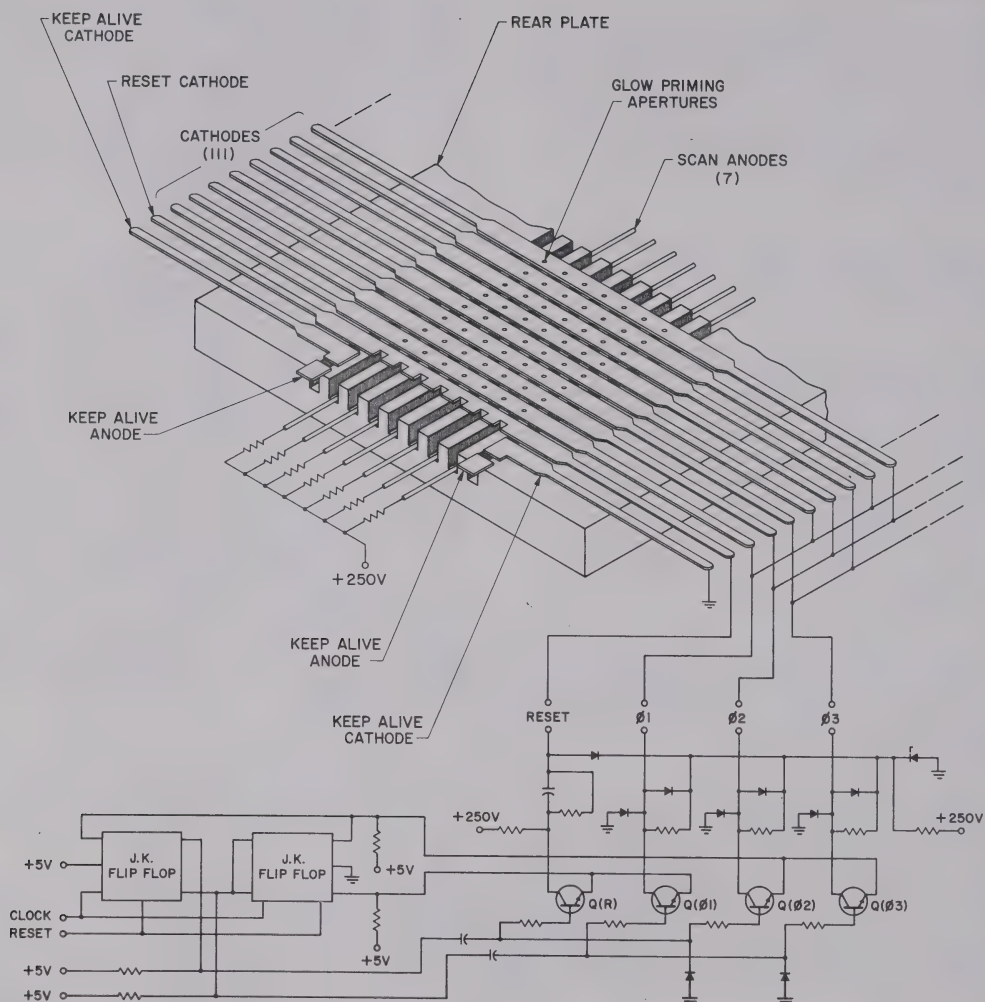

Figure 2.
As indicated earlier, glow scan is the preferential transfer of the glow discharge from one cathode electrode onto an adjacent cathode to achieve a glow scanning effect on the rear or scan side of the panel. Figure 2 is a combination isometric and schematic drawing, designed to show the scan or rear side of the panel pictorially and the drive electronics schematically. The glow scan function occurs as follows:
2. In the vicinity of this glow discharge there is a heavy concentration of electrons, ions and metastables. The area around the keep-alive cathodes is open to allow the metastable and charged particles to diffuse into the area of the reset cathode. Two keep-alive cells, located as shown in Figure 2 are employed because the concentration of metastables decreases rapidly with distance. The construction of the reset cathode allows the metastable atoms from the 2 keep-alive cells to diffuse through the reset tabs into the scan groove area behind the reset cathode. (The glow transfer function occurs only on the rear side of the cathodes.)
There is a limit to the amount that frequency can be increased and this is determined by the off time of the cathodes. By referring to Figure 2 you see that 01 bus is connected to cathodes number 1 and 4. When cathode 1 goes to ground so does 4; however, as described above, the glow only appears at cathode 1. When cathode 1 is turned off the glow moves to cathode 2 and the ionization at cathode 1 starts to decay. When cathode 4 goes to ground (and cathode 1) it is imperative that ionization around cathode 1 has reduced below the point where a glow discharge will form again on this cathode or it would cause the scan to malfunction. To ensure a sufficient ionization decay, a cathode must remain off for approximately 2 clock times (approximately $250 \mu\text{sec}$) before the bus connected to that cathode is grounded again. Increasing the length of the panel above 112 columns has the same effect as increasing the frequency because the larger number of cathodes must be scanned in the same time frame. The increased number of cathodes reduces the cathode on time (and also the off time).